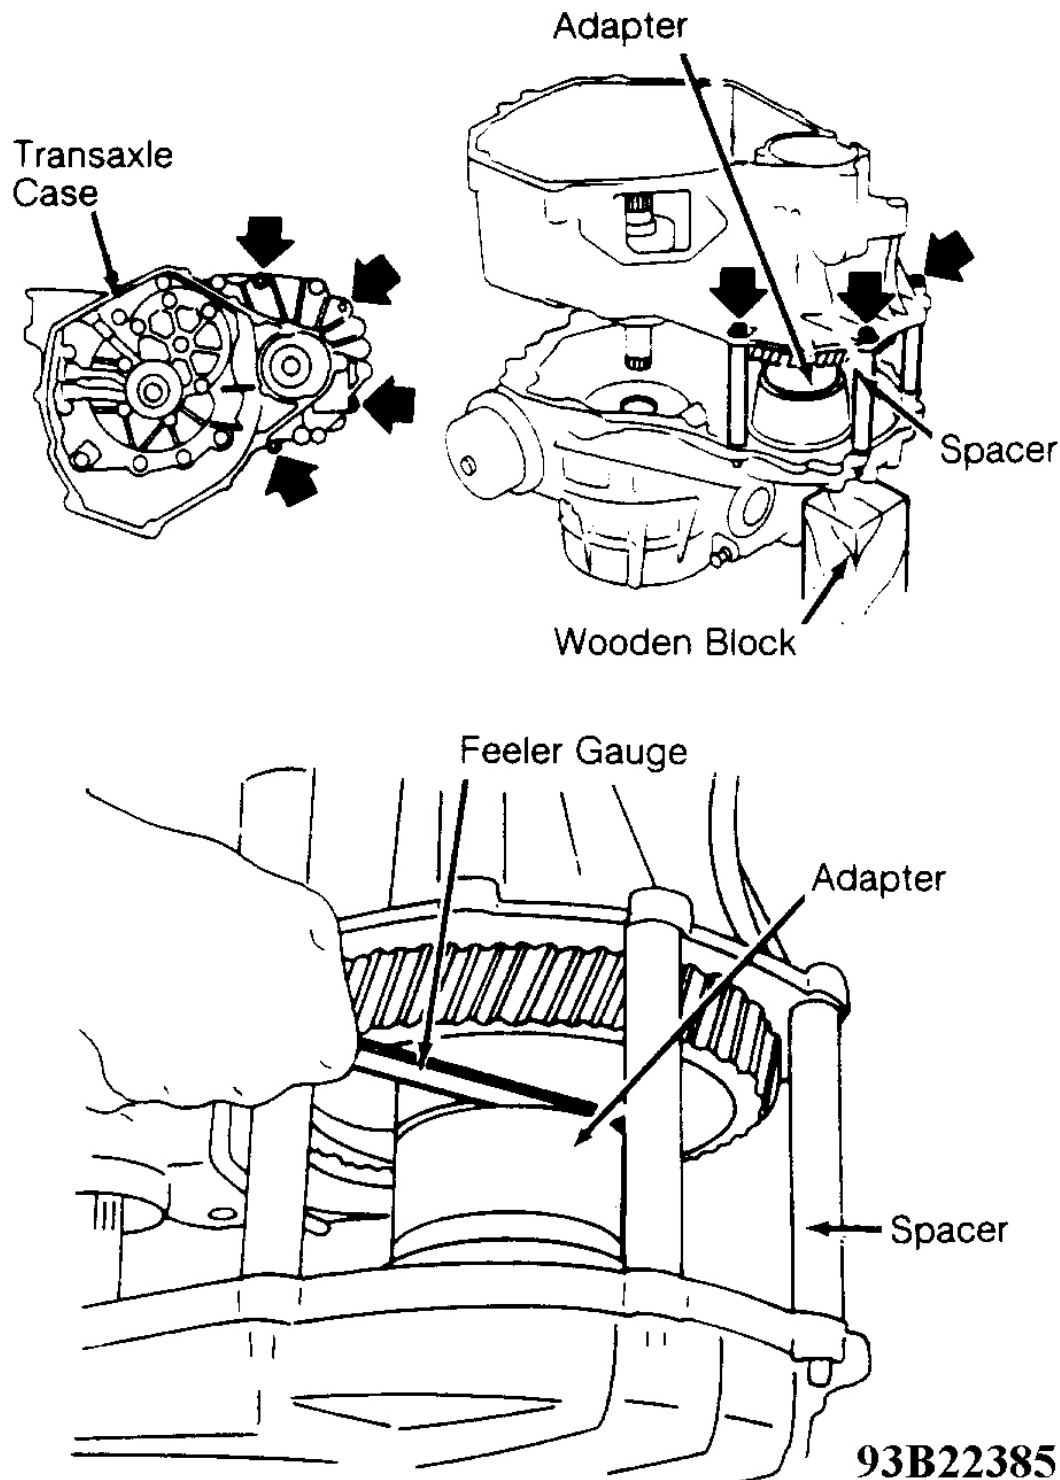

Fig. 25: Measuring Final Drive Assembly Bearing Preload
2. Install gasket on transaxle case. Position 4 Spacers (J-33200) evenly around transaxle case. See **Fig. 25**. Install torque converter housing and tighten bolts to 10 ft. lbs. (14 N.m).